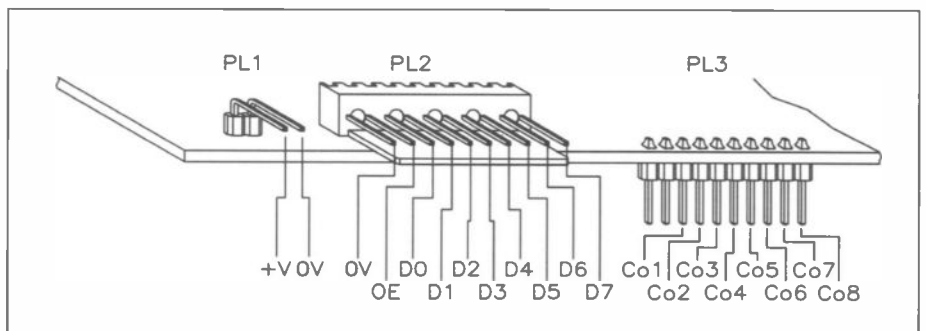

Figure 13. Connections for test purposes.
The power supply should be applied to PL1, as shown in Figure 13. After connecting a DMM between the output and ground, RV1 should be turned clockwise until a reading of 3.9V is obtained. All of the LEDs should light up, since the output enable (OE) and data inputs normally float 'high'. When the OE line (present on pin 2 of PL2, as
shown in Figure 13) is grounded (note that pin 1 of PL2 is a ground connection), the LEDs should go out.